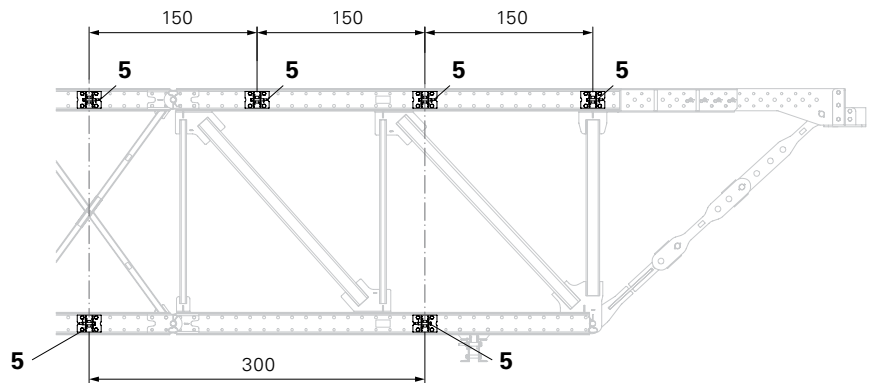

Fig. A3.02
1. Position the Coupling Shoe (3) directly above the first vertical strut.
2. Further assembly corresponds to the Bearing Frame 6.0 m as of Step 2. (Fig. A3.02 + A3.03)